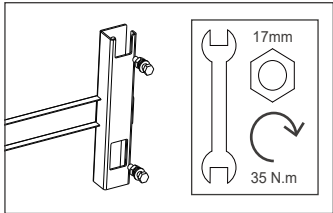

Fig. 2.2 Mounting of inverter rack
- Refer to Figure 2.2 installing the inverter rack.